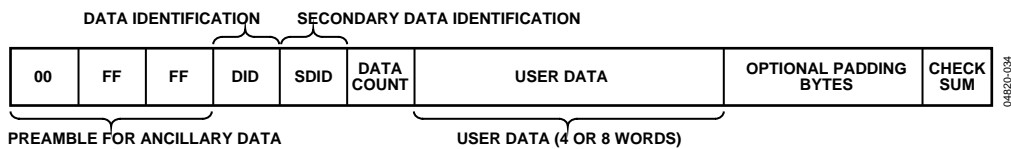

Figure 34. Gemstar and CCAP Embedded Data Packet (Generic)
- GDECAD configures the way in which data is embedded in the video data stream. The recovered data is not available through I2C, but is inserted into the horizontal blanking period of an ITU-R. BT656-compatible data stream. The data format is intended to comply with the recommendation by the International Telecommunications Union, ITU-R BT.1364. See Figure 34. For more information, see the ITU website at [www.itu.ch](http://www.itu.ch).
Each data packet starts immediately after the EAV code of the preceding line. See Figure 34 and Table 149, which show the overall structure of the data packet.